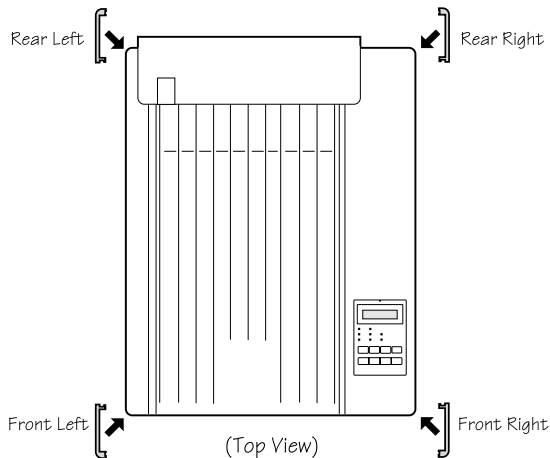

Fig. 8.3 *Attach the Corner Brackets*
6. Snap the plastic brackets onto the appropriate corners of the sheet feeder (fig. 8.3). These brackets have small rims on the bottom that fit inside the edges of the sheet feeder.